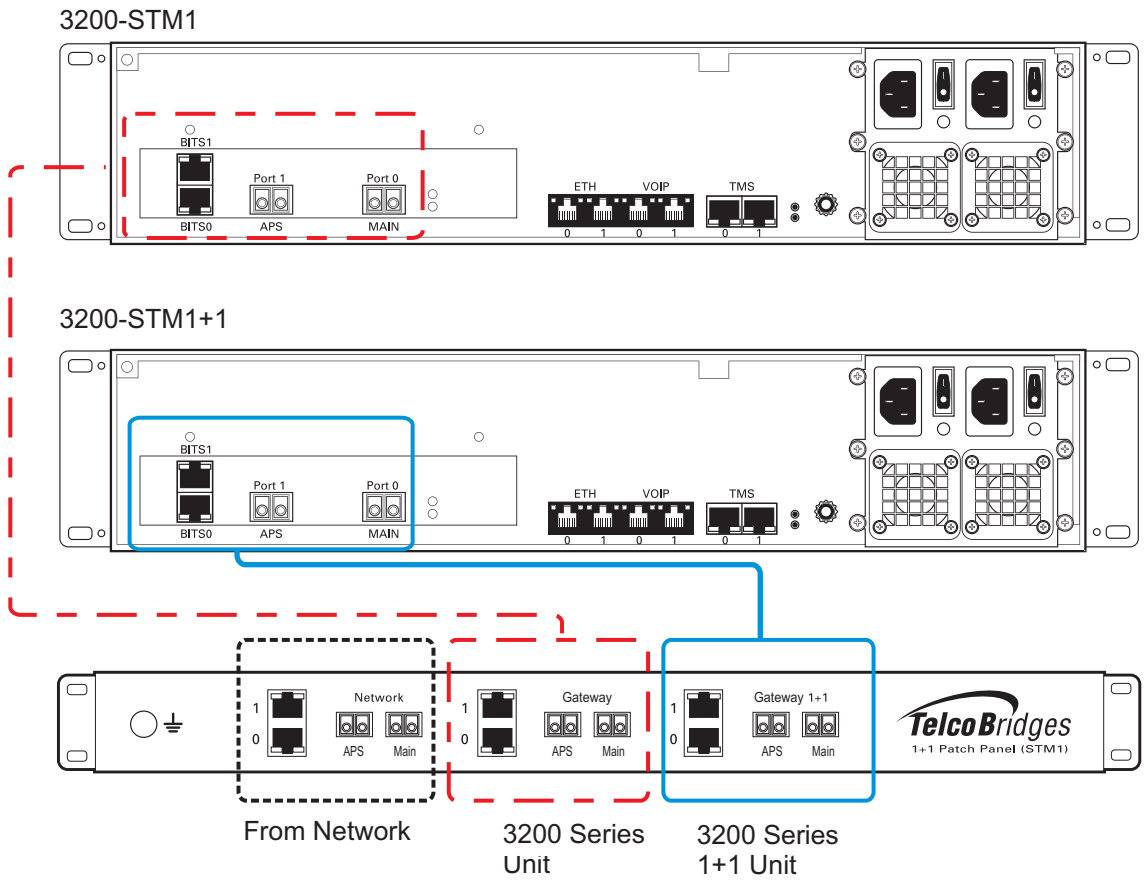

Figure 2.17 3200-STM1 and 3200-STM1 +1 connecting to the STM1 1+1 patch panel
A 3200-STM1 and 3200-STM+1, each with one main and one backup OC3 or STM1 port enables the connection to OC3/STM1 lines. See figure 2.17 on page 40. Refer to table 2.4 on page 39 for a listing of optical interfaces. The default SFP module for OC3/STM1 connection is SMF, intermediate reach, (SFP-OC3-IR1) 1310 nm with LC type connectors.
1. Connect each OC3/STM1 line of the network section of the 1+1 patch panel to the remote equipment. See figure 2.17 on page 40.